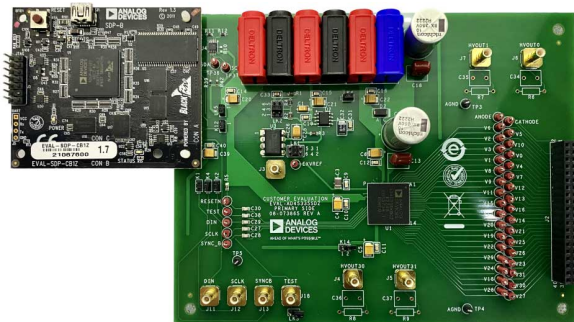

Figure 2. Hardware Configuration
2. Connect the EVAL-SDP-CB1Z to the EVAL-AD45335SDZ as shown in Figure 2. Screw the two boards together using the nylon screw/nut set included in the evaluation board kit to ensure that the boards are connected firmly together.